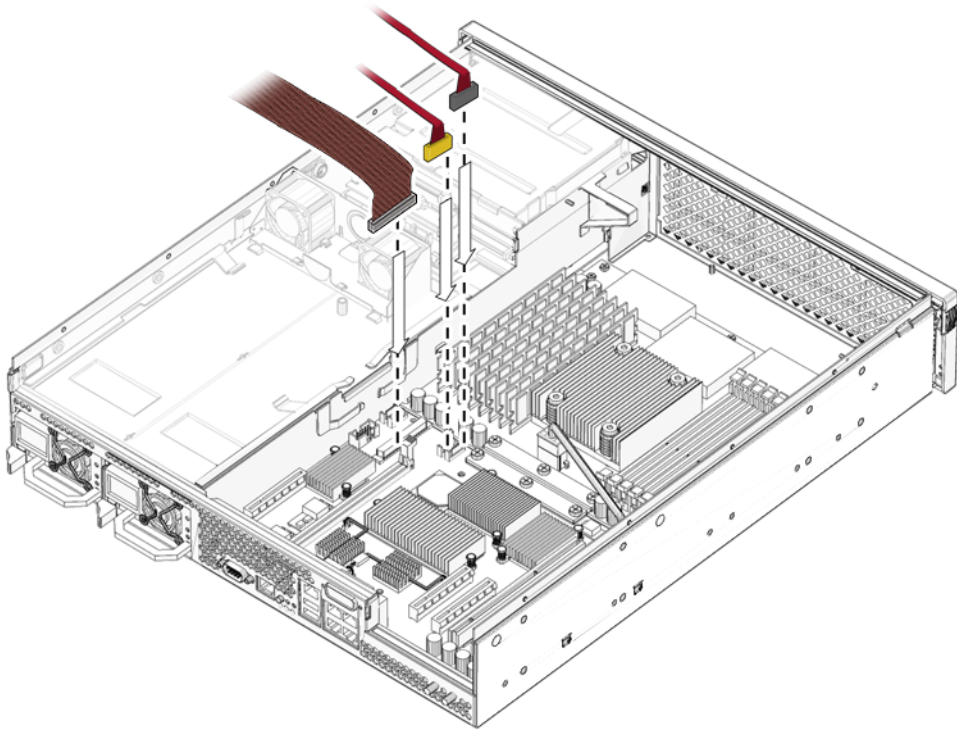

FIGURE 4-28 Reconnecting the Cables to the Motherboard Assembly
6. Reconnect the cables to the following connectors on the motherboard assembly (FIGURE 4-28):